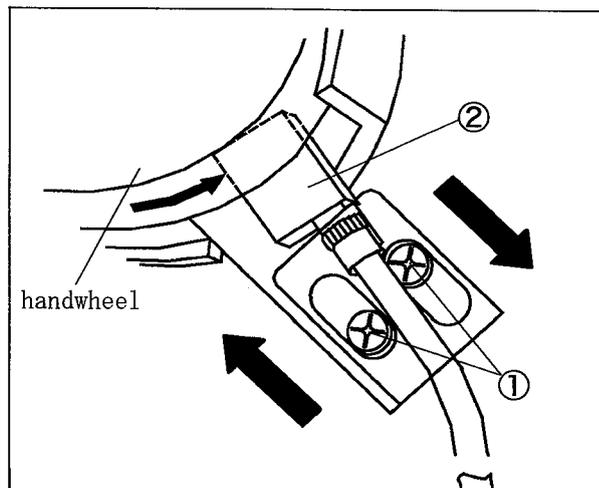

Fig. 11
- If the needle stops after the highest position, move the synchronizer ② to the right. (Fig. 11)